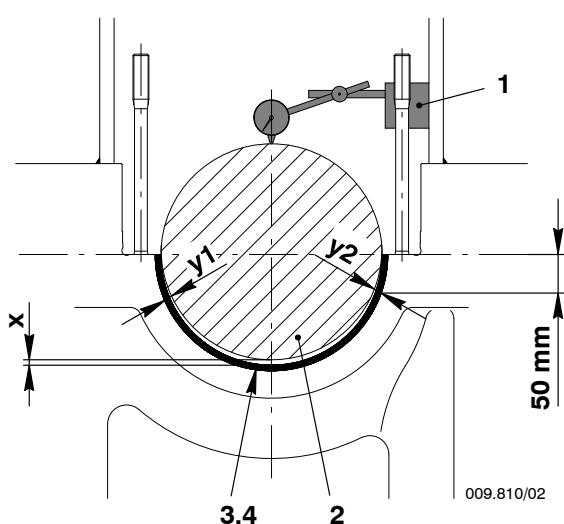

Fig. 15
- 1) Measure and record the lateral clearances y_1 and y_2 between the crankshaft (2, Fig.15) and the lower main bearing shell (3,4) at approximately 50 mm below the bearing division.
- 2) Install the dial gauge with magnetic base (1) above the crankshaft (2) as shown in Fig. 15 and set it to zero.
- 5) Use the hydraulic jacks (94936) to lift the crankshaft (2) to $x=0.3$ mm.